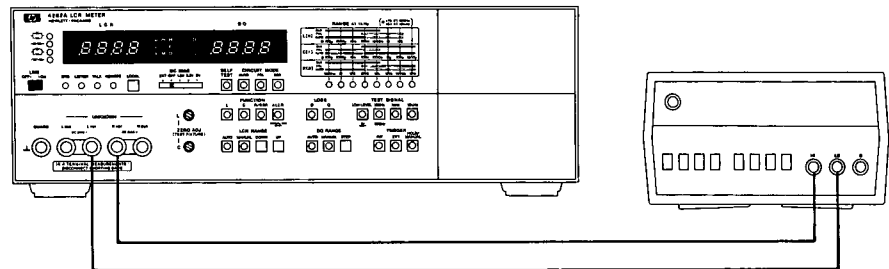

Figure 4-6. Internal DC Bias Source Test Setup.
- 1. Connect DC Voltmeter to 4262A UNKNOWN terminals as shown in Figure 4-6.